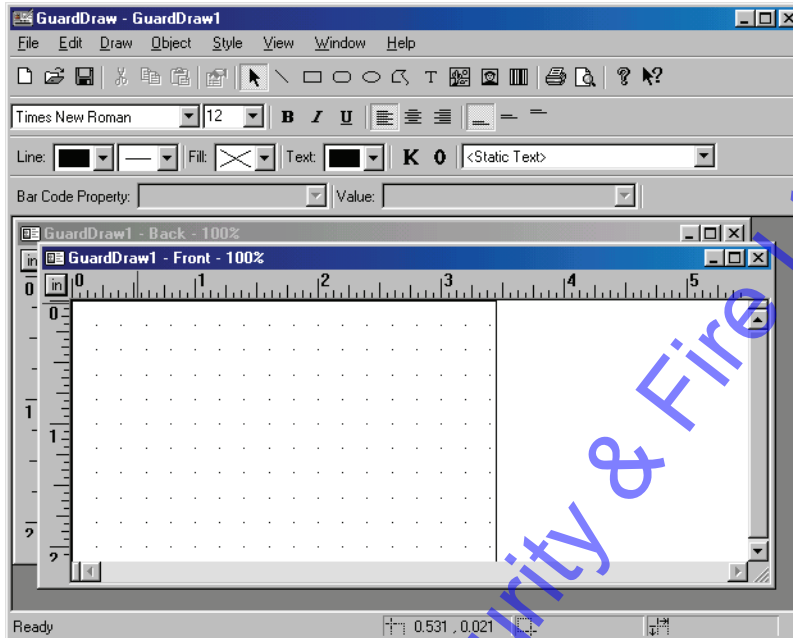

Figure 9-4: Blank Badge Template
- Continuing from Step 4 above, click the File ⇒ New pull-down menu option. This opens a new, blank badge template (see Figure 9-4).